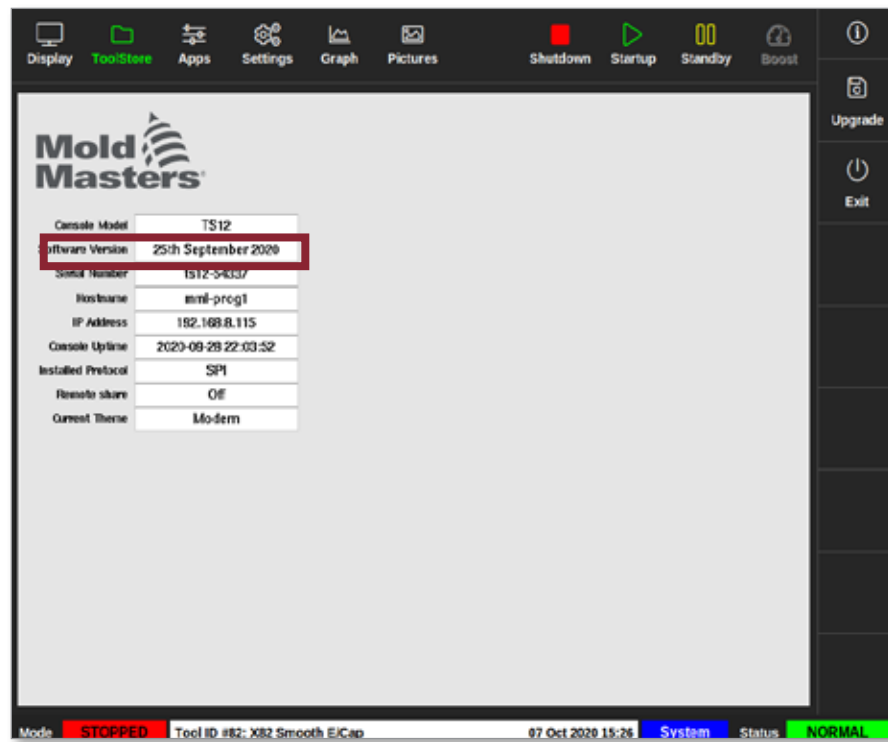

Figure 8-1 Check software version
7. Check the screen to see that the latest version has been installed. See Figure 8-1.